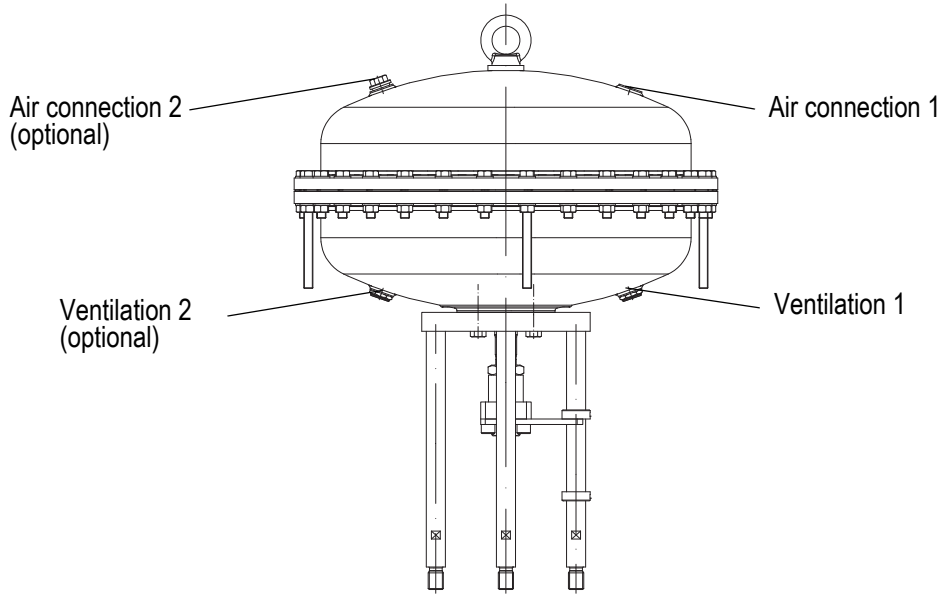

Fig. 3: DP35 „actuator stem retracts by spring force“
- Connect the control pressure line to the air connection 1 of the diaphragm base (Fig. 3) and pressure measuring equipment.